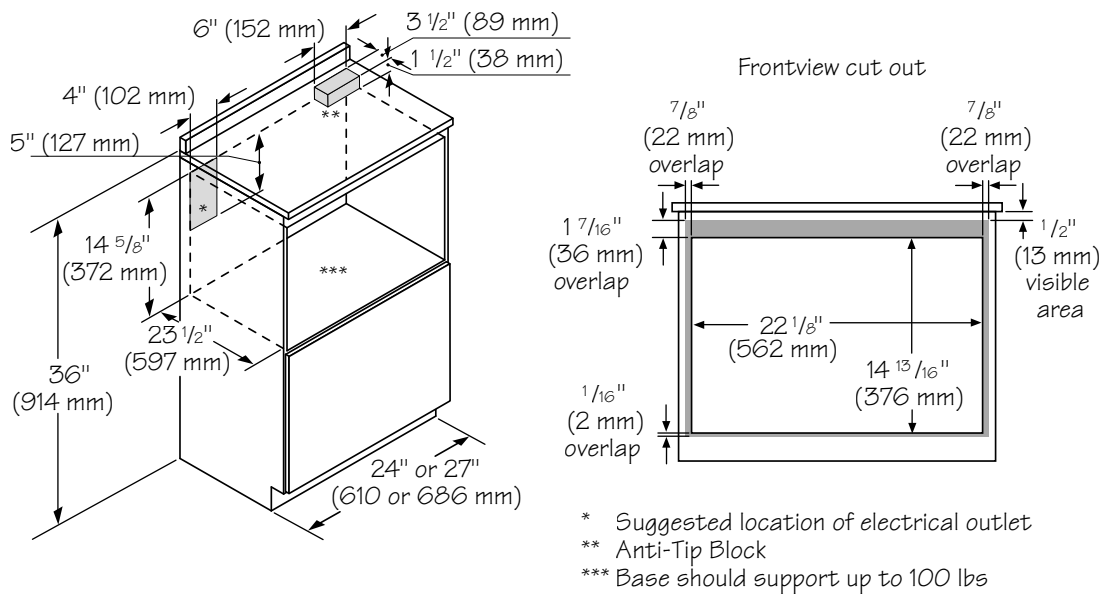
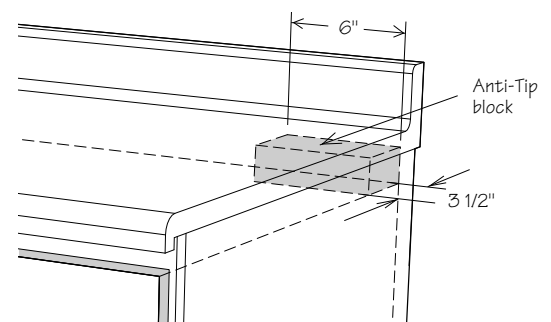
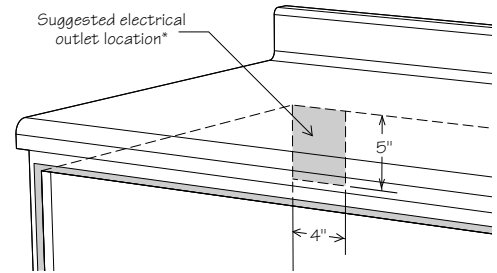

Figure 3
Figure 5
Figure 6
- For safety considerations do not install drawer in any combustible cabinetry which is not in accord with the stated clearances and dimensions in the "MicroDrawer™ Microwave Oven Measurements" section following. See Figure 3 (standard installation) or Figure 4 (flush installation).
- Dimensions that are shown in Figure 3 (standard installation) or Figure 4 (flush installation) must be used. Given dimensions provide minimum clearance. Locate electrical outlet in the shaded area in the upper left-hand corner of the cutout. See Figure 6.
The anti-tip block reduces the risk of drawer tipping when installed properly. Install the anti-tip block 14 13/16 inches above the installation opening floor (where the unit will sit) for a standard installation or 14 5/8 inches for a flush installation. The 6-inch Anti-Tip block must be provided by the installer. See Figure 3 (standard installation) or Figure 4 (flush installation) and Figure 5. The Anti-Tip block prevents serious injury that might result from spilled hot liquids.